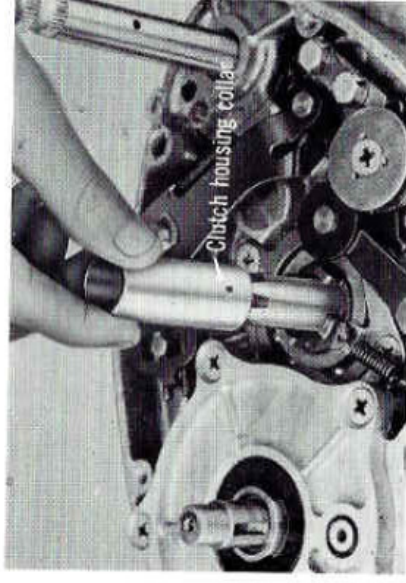

Fig. 8-2-16
16. Take the clutch housing collar out of the crankcase. (Fig. 8-2-16)